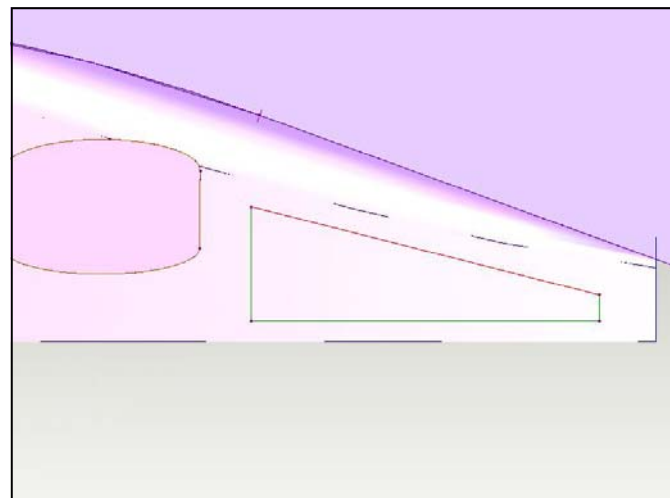

Figure 19 - Front Wing Shape
- 6) Using the line tool, create a side view of the front wing. Figure 19 shows you an example of one.